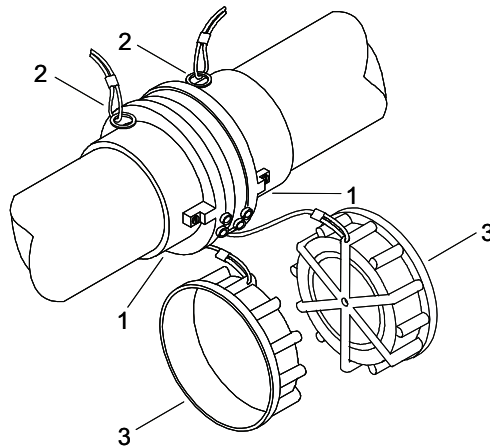

Figure 2. Fuel System Component With Non-Valved Quick Disconnect Coupling Half.
1. Place drip pans under quick disconnect coupling halves (Figure 2, Item 1) to be disconnected.
2. Pull rings (Figure 2, Item 2) while rotating the quick disconnect coupling half (Figure 2, Item 1) counterclockwise.
3. Detach quick disconnect coupling halves (Figure 2, Item 1).
4. Install dust caps (Figure 2, Item 3) on quick disconnect coupling halves (Figure 2, Item 1).
1. Remove dust caps (Figure 2, Item 3) from quick disconnect coupling halves (Figure 2, Item 1).
2. Place quick disconnect coupling halves (Figure 2, Item 1) together and align quick disconnect coupling halves (Figure 2, Item 1).
3. Rotate one quick disconnect coupling half (Figure 2, Item 1) clockwise to connect quick disconnect coupling halves (Figure 2, Item 1).